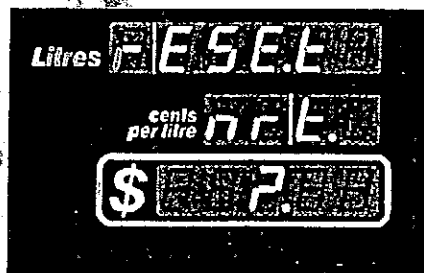

Figure 1-6 – Totals Reset – Full-Display pumps
- 1 After the hash (#) button is pressed (at the end of the previous step), the display shown in Figure 1-6 will appear on the front Transaction Display, indicating that the option to reset the totals is available. If this option is **not** required, press the hash (#) button now to bypass Totals Reset